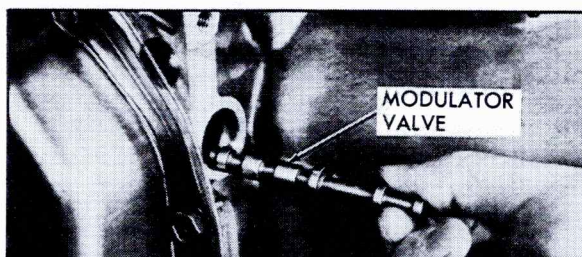

Fig. 7-153 Removing Modulator Valve
3. Remove modulator valve from transmission case, Fig. 7-153.